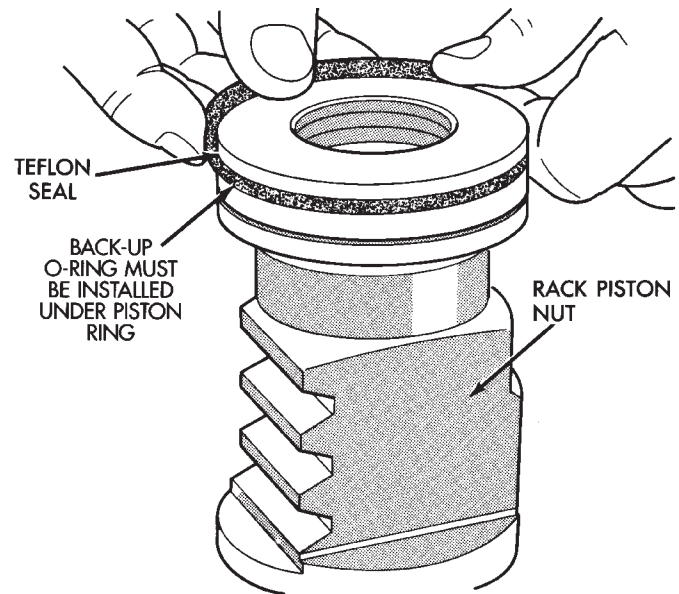

Fig. 20 Rack Piston Teflon Ring and O-Ring
- (11) Remove teflon ring and O-ring from the rack piston (Fig. 20).
- (12) Remove the adjuster lock nut and adjuster nut from the stub shaft.
- (13) Pull the stub shaft with the spool valve and thrust support assembly out of the housing.